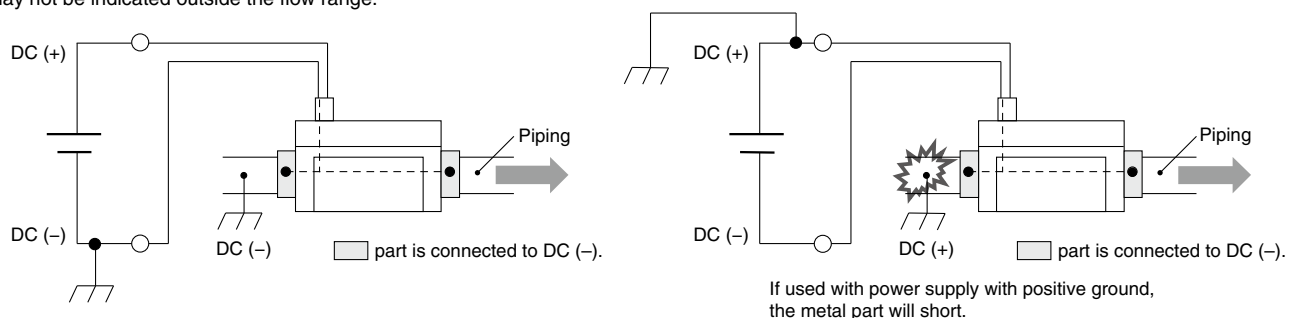

Figure 1
- *10 Piping port is grounded to DC(-)/blue line. Power supply with positive ground cannot be used. (Refer to Figure 1.)